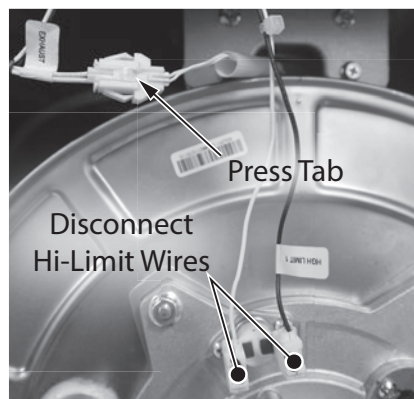

Figure 143 - Disconnect hi-limit and exhaust thermistor wiring
- 34 Locate the burner door hi-limit and exhaust thermistor wiring connected to the heat exchanger as shown in Figure 143. Disconnect the hi-limit wires (labeled "HI LIMIT 1") from terminals. Disconnect the thermistor wiring (labeled "EXHAUST") by pressing on the small tab while separating the wires.
63 Follow **Steps 34-35** in reverse order to connect burner door hi-limit and exhaust thermistor wiring. Confirm connections are tight and routed properly as shown in Figure 143.